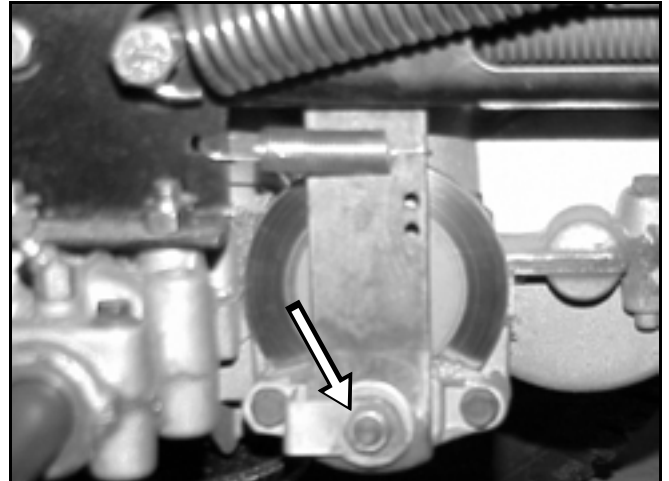

Figure 41
The brake is located on the right side of the rear axle, inside the rear tire. If the brake does not hold securely or stopping power is insufficient, an adjustment is required (Figure 41).
3. To increase braking resistance, tighten the brake adjusting nut (Figure 41) 1/8 turn clockwise; then check the brake again. Continue this adjusting and checking process until the brake is set properly.